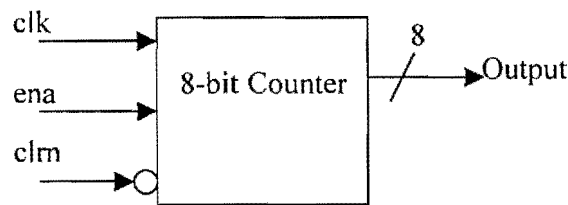

Figure 1.b.1
- a. Compose a complete VHDL code for the 8-bit counter. *Figure 1.b.1* is the block diagram of the 8-bit Counter. Refer to *Table 1.b.1* for the truth table for the counter.